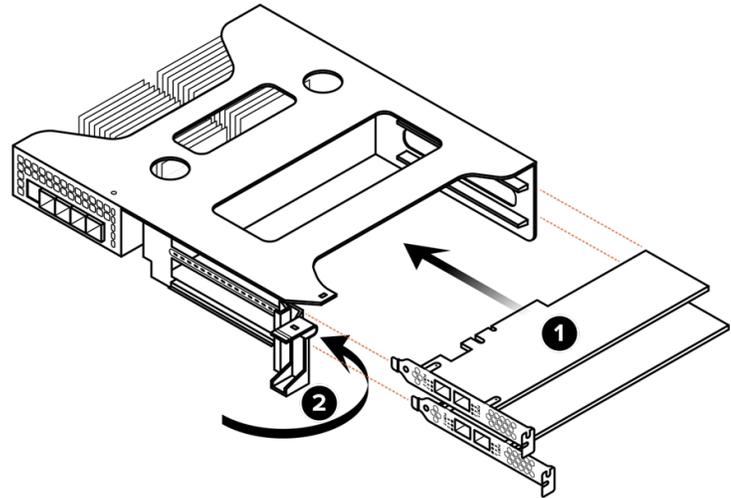

Figure 14-14. Installing PCIe Cards Into Riser 0
1. Carefully install the PCIe cards, first in slot 1 (the bottom slot) and then in slot 0 (the top slot). Make sure that each card is fully seated in the slot and that its front panel is flush with the front panel of the riser. See Figure 14-14.